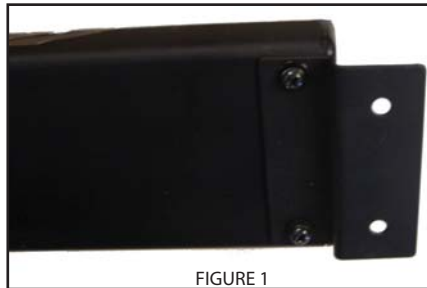

FIGURE 1
2. Install mounting brackets to both ends of the lightbar by uninstalling the two screws on either side of the light. Remove and throw away plastic washers before re-installing screws with metal brackets. See Figure 1 for details
3. Prior to drilling or mounting, consideration should be given to cable location and light placement. The cable should exit the end cap on the driver's side unless otherwise specified. Using the light as a template, mark the location of the (4) mounting holes on either end of the light and the wire exit location.
5. Drill (4) appropriately sized mounting holes for installer supplied mounting screws.
8. Remove strain relief/wire seal from empty black plastic control box cover supplied in your installation kit. Feed the control wire from the bar through the strain relief as shown in Fig 1.